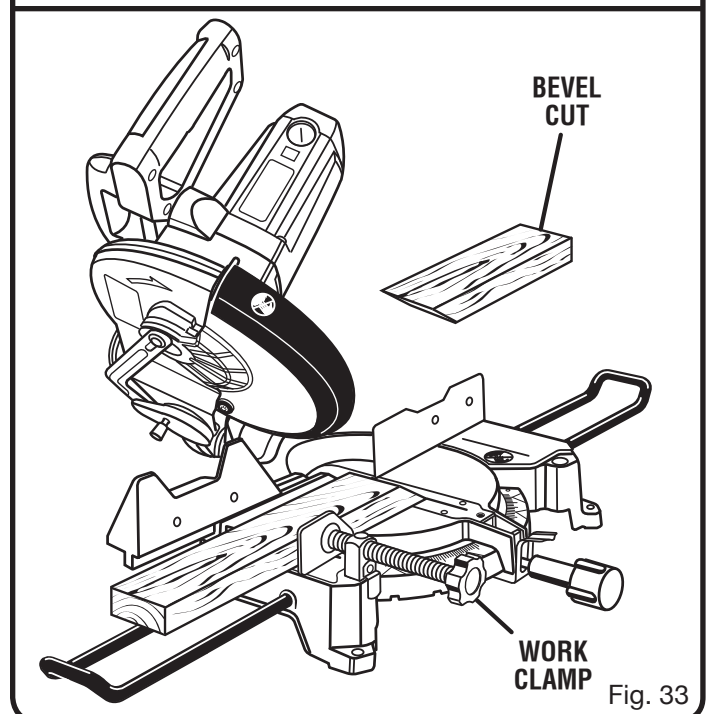

Fig. 33
- Grasp the stock firmly with one hand and secure it against the fence. Use the optional work clamp or a C-clamp to secure the workpiece when possible. *See Figure 33.*